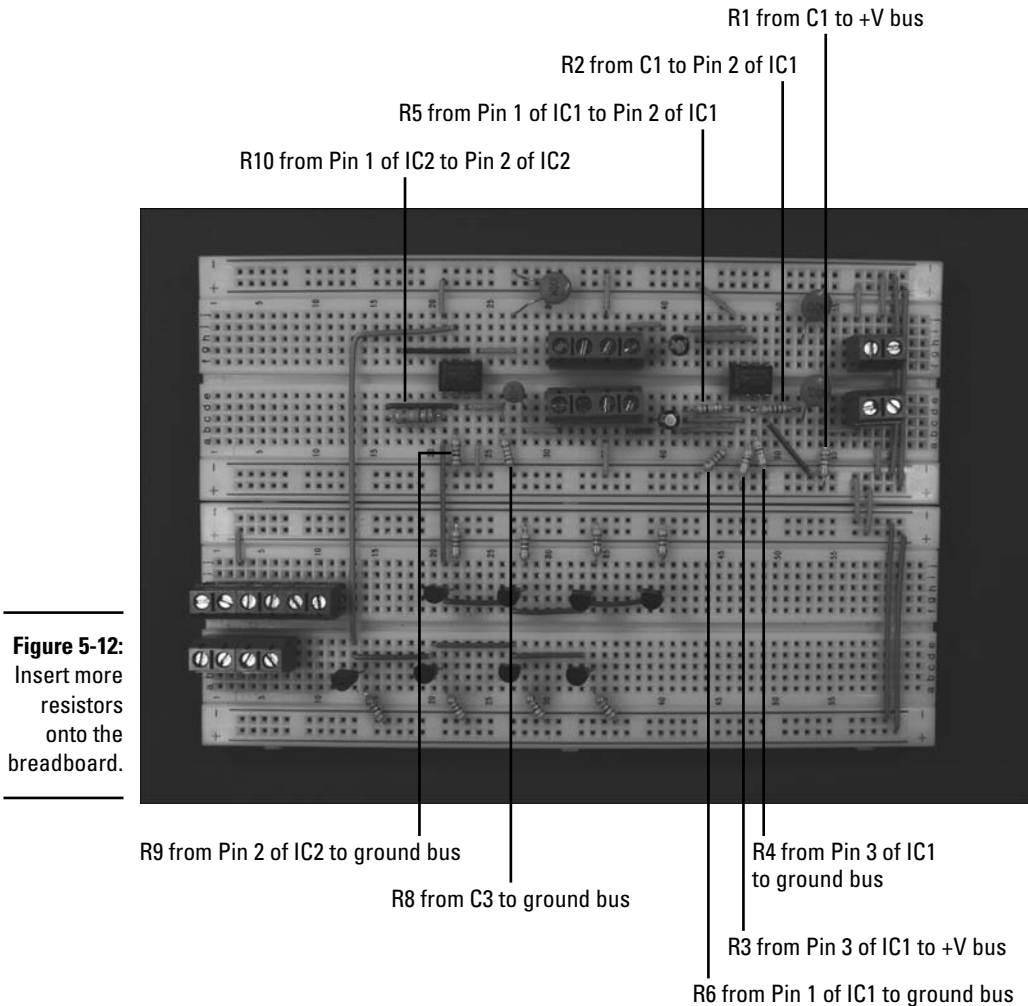

Figure 5-12:
9. Insert one 2.2 kohm resistor (R1), one 2 kohm resistor (R2), two 47 kohm resistors (R3 and R4), one 100 kohm resistor (R5), two 5 kohm resistors (R6 and R8), one 1 kohm resistor (R9), one 5 kohm resistor (R6), and one 220 kohm resistor (R10) on the breadboard, as shown in Figure 5-12.